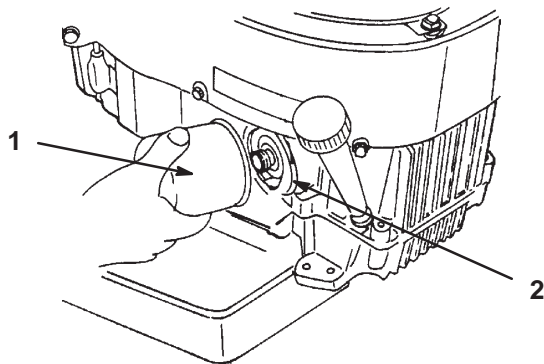

Figure 18
2. Remove the old filter (Fig. 18).
3. Apply a thin coat of new oil to the rubber gasket on the replacement filter (Fig. 18).
4. Install the replacement oil filter to the adapter. Turn the oil filter clockwise until the rubber gasket contacts the filter adapter, then tighten the filter an additional 3/4 turn (Fig. 18).